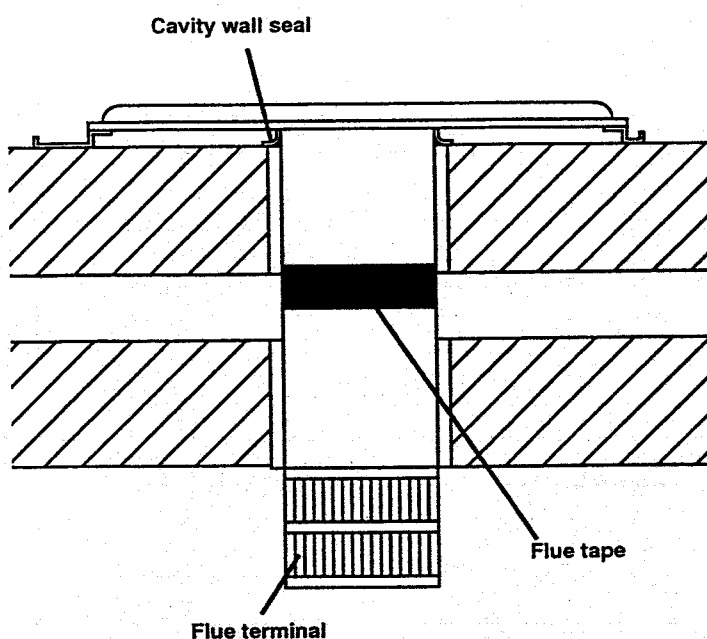

Fig. 3. Flue ducting and terminal. (TOP VIEW)
5. Slide the flue duct and terminal assembly into the flue outlet at the rear of the heater. Ensure that the flue duct spotwelds are not at the bottom. Adjust the length between the back of the air box and the inside edge of the terminal equal to the wall thickness plus 20mm (¾in). Using the length of flue tape provided fix this dimension by taping up the joint between the flue duct assembly and the flue outlet. (Fig 3).
7. Ensuring that the heater is vertical, secure the heater to the wall using the four screws and washers provided. Ensure the cavity wall seal ring is correctly positioned and seals against the wall. (Fig 3).
8. Ensure that the flue terminal protrudes sufficiently on the outside wall face and make good as appropriate. (Fig 3).